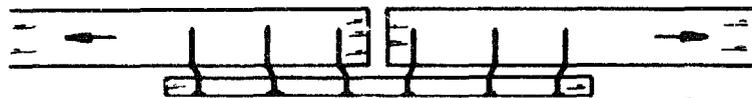

Fig. 3
- SHEAR STRESS IN A JOINT WITH ONE FISH PLATE: If one nailed fish plate (Fig. 1) is used, the nails tend to shear off (break) at the joint line between the members and the fish plate because of the force exerted as the members try to move apart (Fig. 3). The joint is said to be in single shear (Fig. 2).